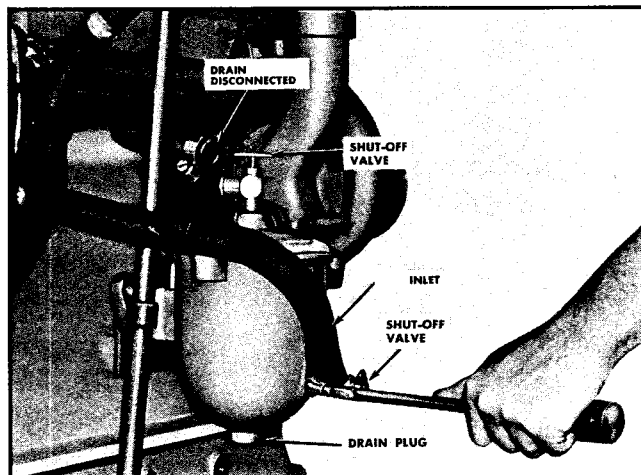

Fig. 4-3. Installing corrosion resistor
3. Attach 5/8 inch heater hose inlet and outlet lines. Fig. 4-3. Inlet line connects resistor to pressure side of water pump. Outlet line connects to suction side of water pump.